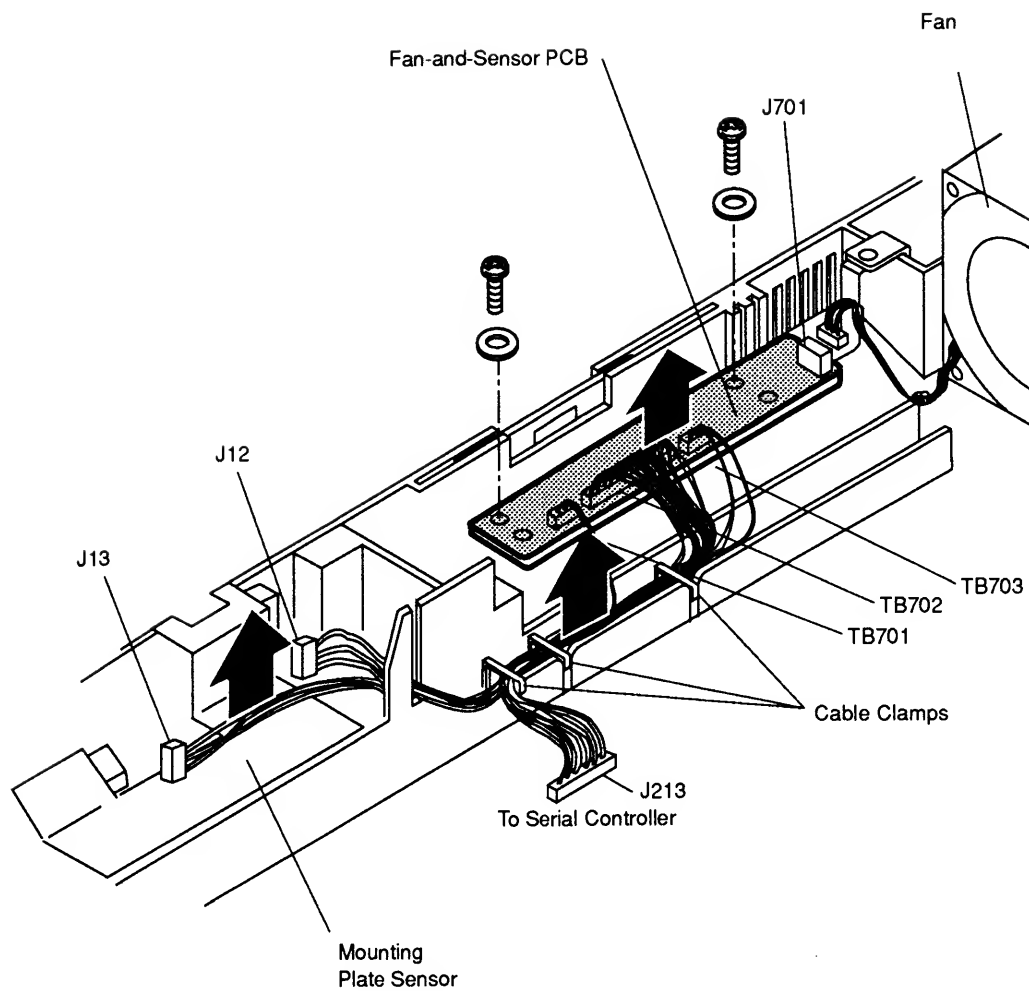

Figure 2-20 Fan-and-Sensor PCB (LaserWriter LS/L)
2. Locate the fan-and-sensor PCB next to the fan **(Figure 2-20)**.
3. Disconnect the fan connector (J701) from the fan-and-sensor PCB **(Figure 2-20)**.
4. Disconnect connector J213 from the serial controller **(Figure 2-20)**.
5. Using a small flat-blade screwdriver, open the three black cable clamps behind the fan-and-sensor PCB; remove the connector cables **(Figure 2-20)**.
7. Remove the two black screws that secure the fan-and-sensor PCB to the printer chassis **(Figure 2-20)**.
8. Lift the fan-and-sensor PCB out of the printer **(Figure 2-20)**.